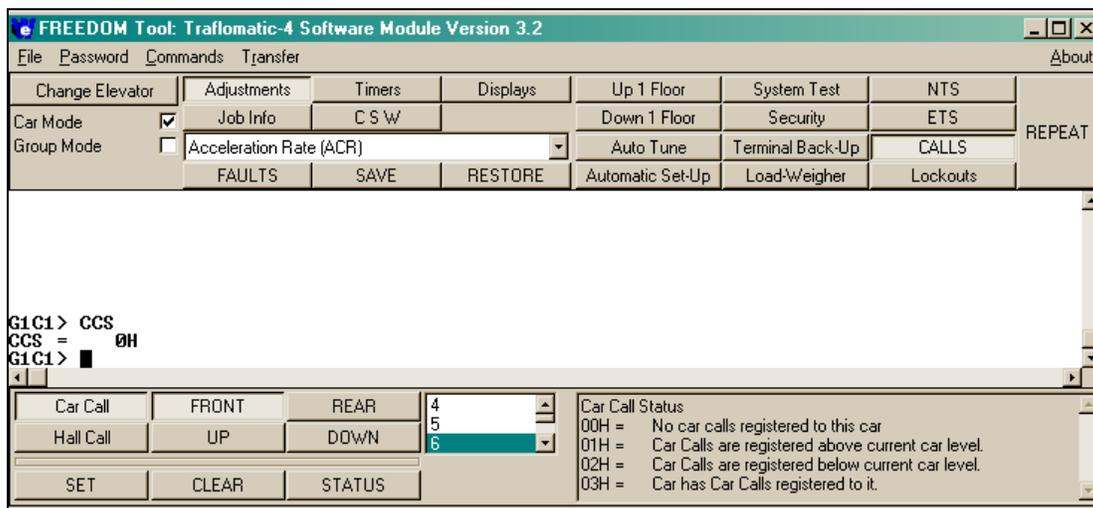

Figure 80
- 4) Select the SET pushbutton. The type of Call entered should appear in the description pane to the right. Refer to Figure 80.